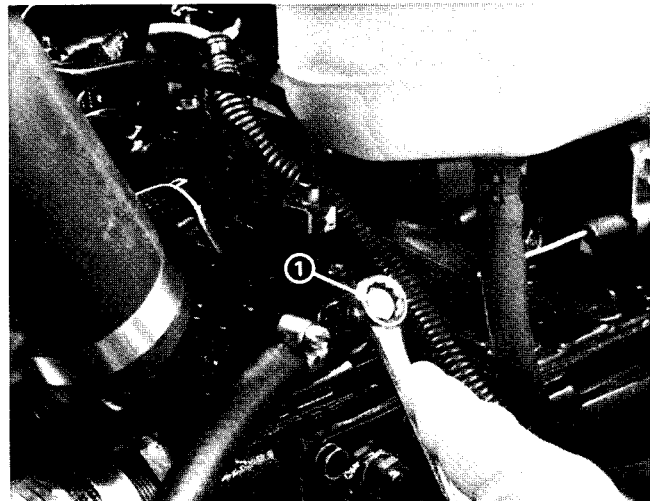

Figure 56b
4. Open the air vent screw on the fuel injection pump (Fig. 56b).